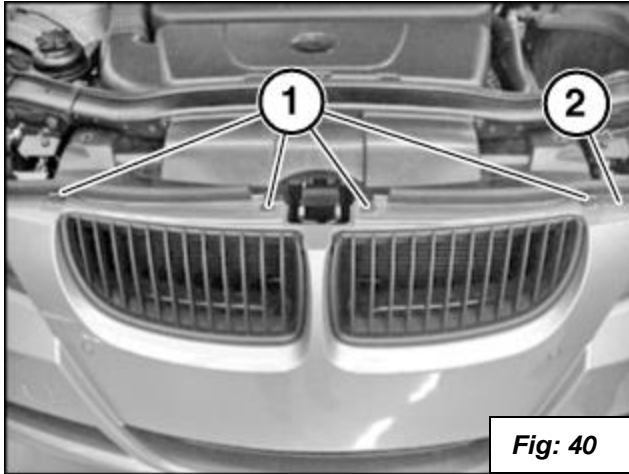
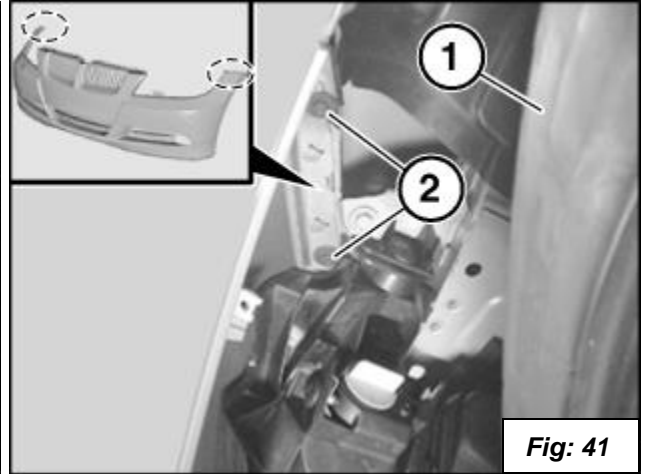

Fig: 40
Fig: 41
41. Fasten the top screws (1) as shown in figure 40 and the side screws (2) as shown in figure 41.